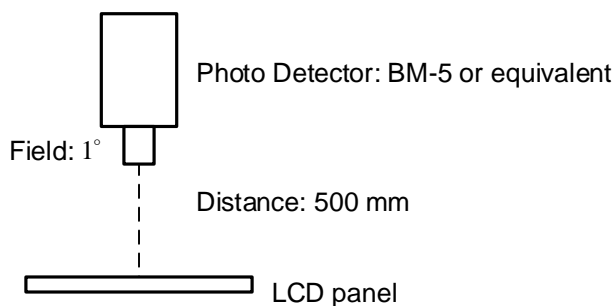

Fig. 6.1
- In the dark room around 200 lx, the equipment has been set for the measurements as shown in Fig 6.1.